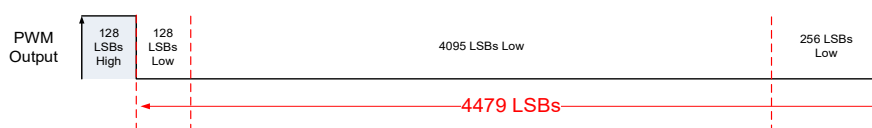
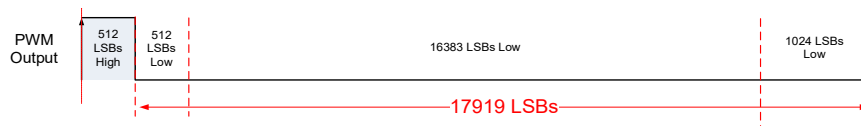

Figure 34. 12-bit PWM Signal in Diagnostics Low Mode
Figure 36. 14-bit PWM Signal in Diagnostics Low Mode
- Diagnostic low mode, see Figure 34 and Figure 36